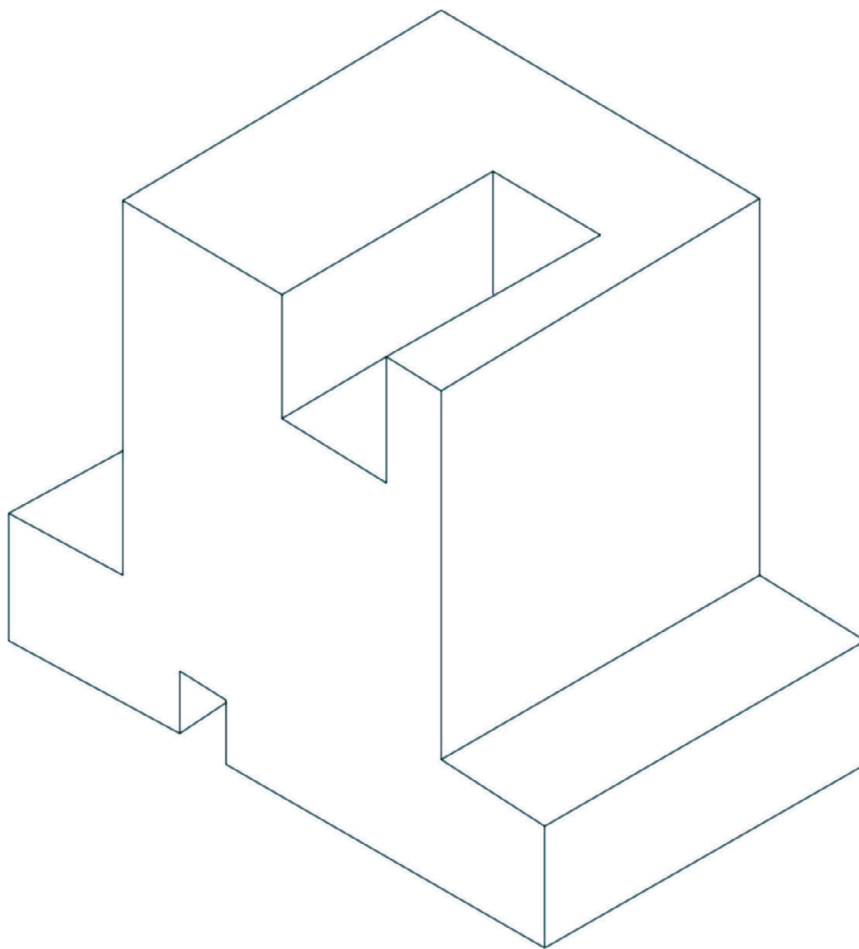

Figure 1
**Figure 1** shows an isometric view of a block. Apply the thick and thin line technique to it in order to enhance its appearance.